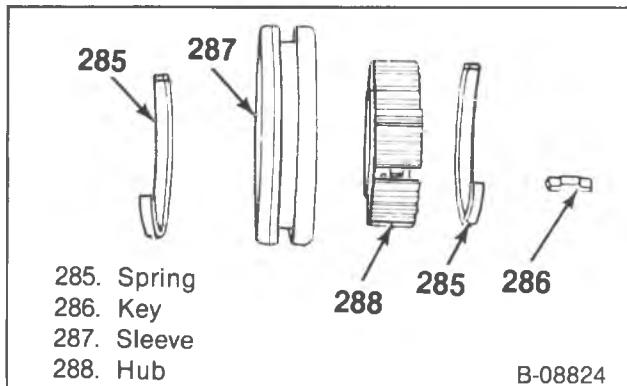

Figure 34—Synchronizer Components
- 8. 3-4 synchronizer (205), (figure 34).